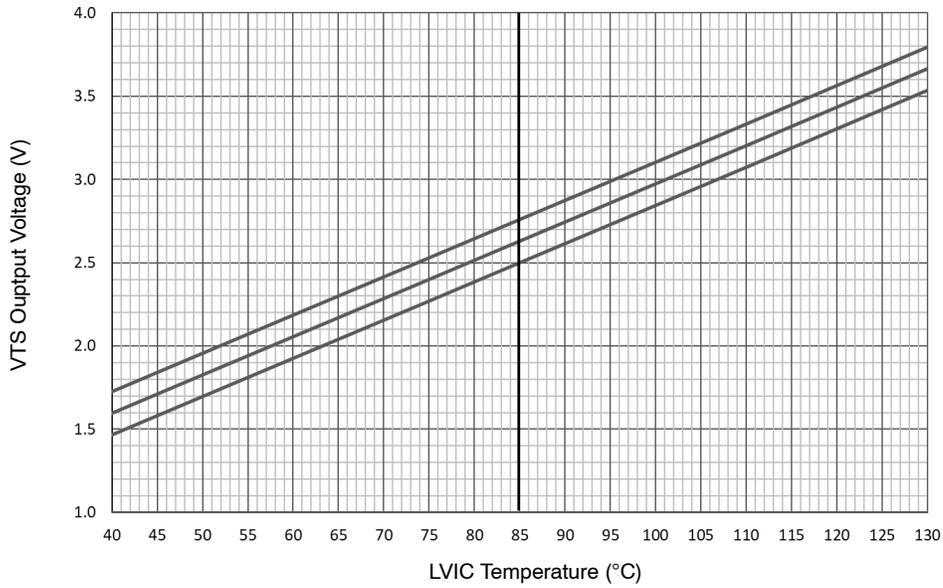
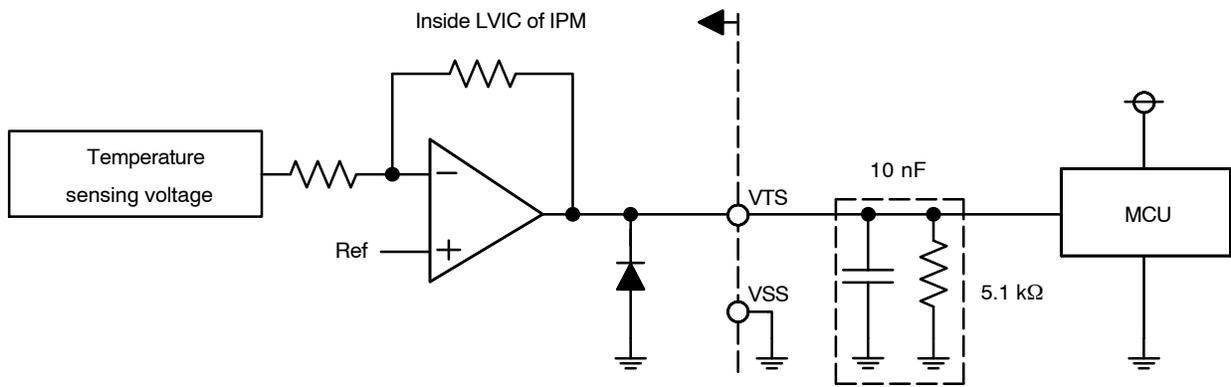

Figure 4. Temperature of LVIC versus VOT Characteristics
Figure 5. Internal Block Diagram and Interface Circuit of VTS
- TLVIC is the temperature of LVIC itself. VTS is only for sensing temperature of LVIC and cannot shutdown IGBTs automatically. The relationship between VTS voltage output and LVIC temperature is described in Figure 4. It is recommended to add 5.1k Ω pull down resistor between VTS and VSS (Signal Ground) as described in Figure 5 for linear output characteristics at low temperature. To reduce noise, 10 nF cap is recommended as well. Refer to the application note for usage of VTS.